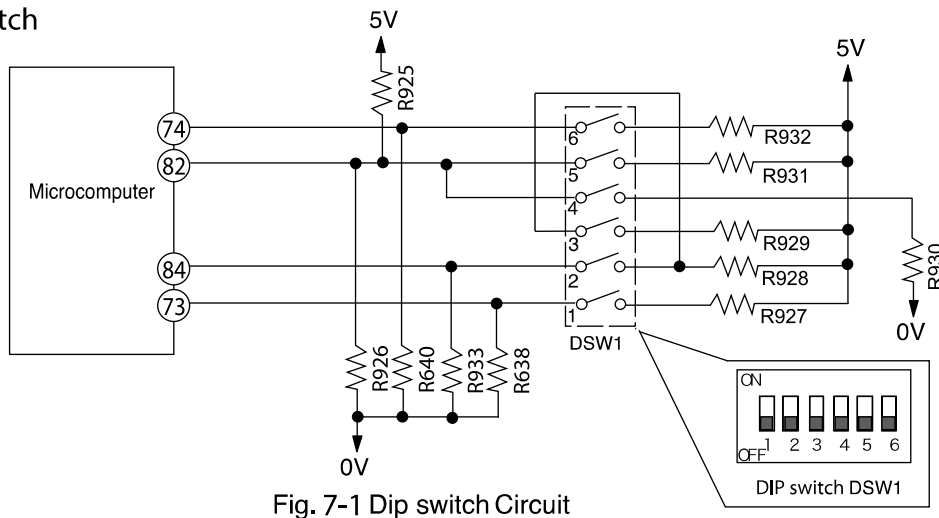

Fig. 7-1 Dip switch Circuit
- Fig. 7-1 shows the dip switch circuit; the table shown in Fig. 7-2 are function and setting position from ①—⑥ of the switch No.